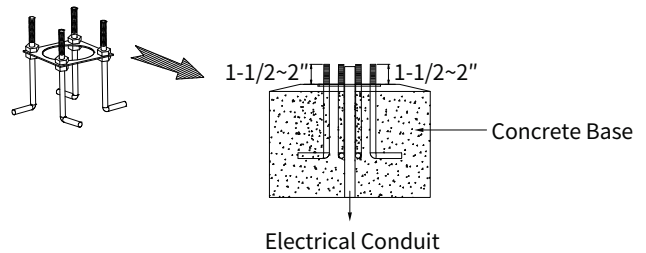

Fig 2
3. Install 4 anchor bolts into concrete as per attached **Fig. 2**, having at least 1-1/2~2" protruding from concrete with threads free and clear of debris and dirt (Electrical conduit are reserved in the concrete center).